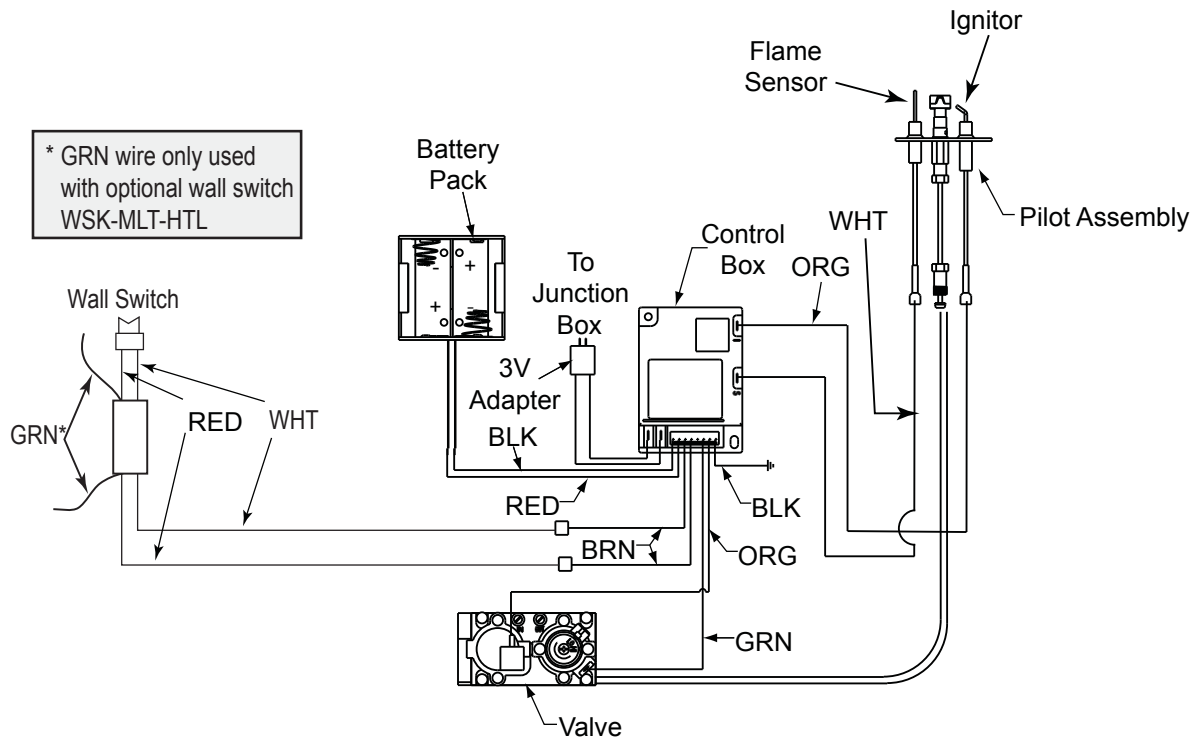

Figure 13.3 Intellifire Pilot Ignition (IPI) Wiring Diagram
- Refer to Figure 13.3, Intellifire Pilot Ignition (IPI) Wiring Diagram.